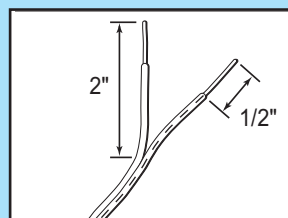

FIG. 4-7 Splitting and stripping.
- Split and strip ends of sensor wires and pre-wired wires (Fig. 4-7).
4. Split and strip ends of sensor wires (Fig. 4-7).